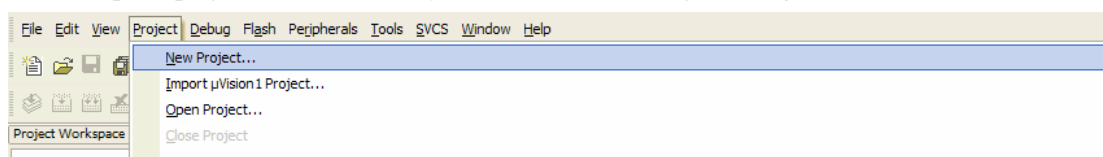

Figure 1
4. Set up the project. Run Keil firstly, and choose New Project as figure 1 shows.